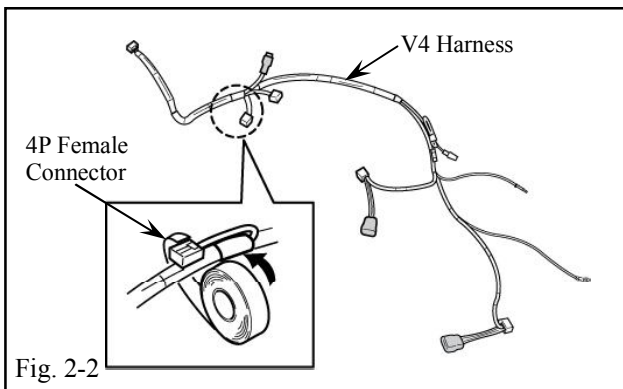

Fig. 2-2
- (b) Secure the V4 Harness's Blue Female 4P Connector with Electrical Tape as shown. (Fig. 2-2)